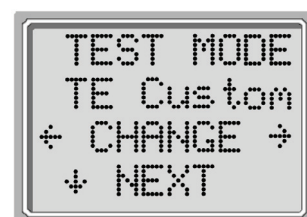

Figure 45
3. The next display you see is TEST MODE (figure 45). Use the LEFT or RIGHT arrow keys to select TE Custom.